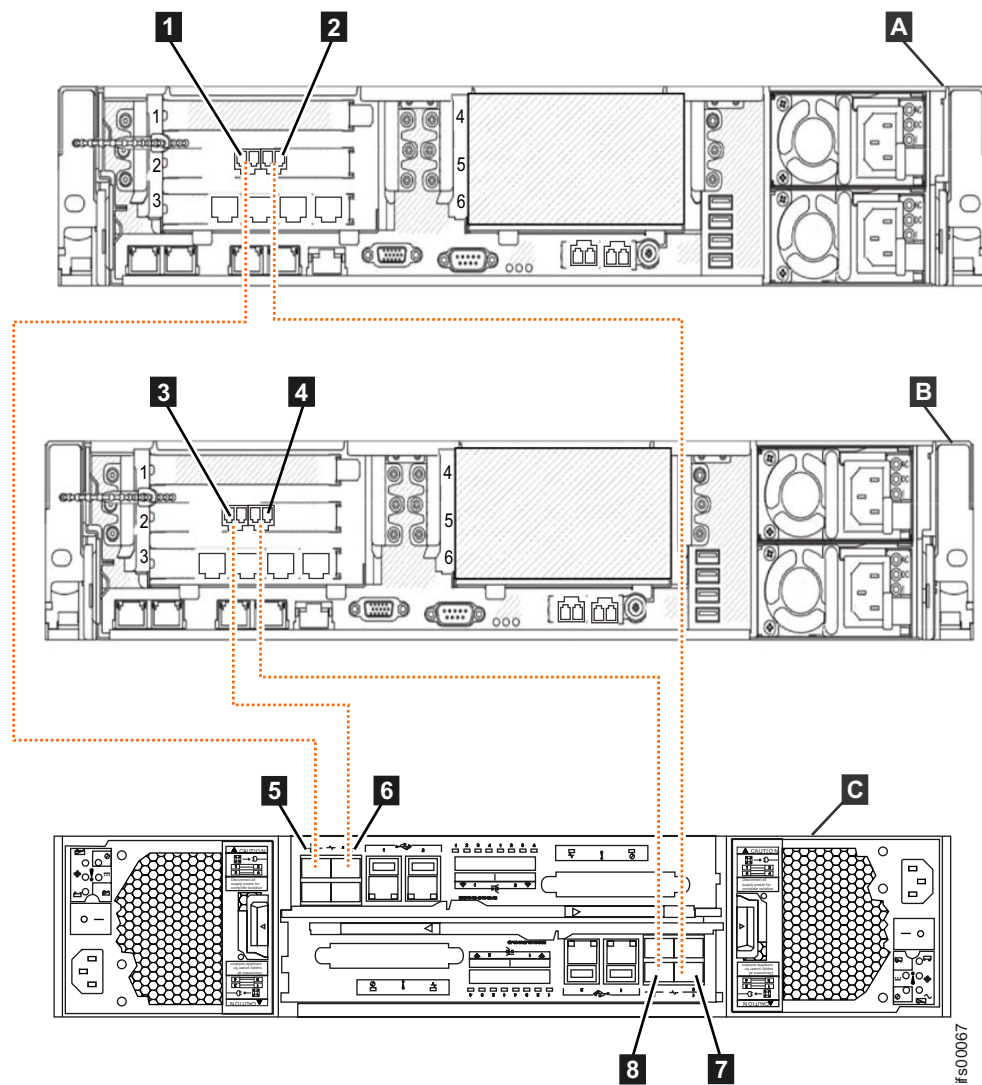
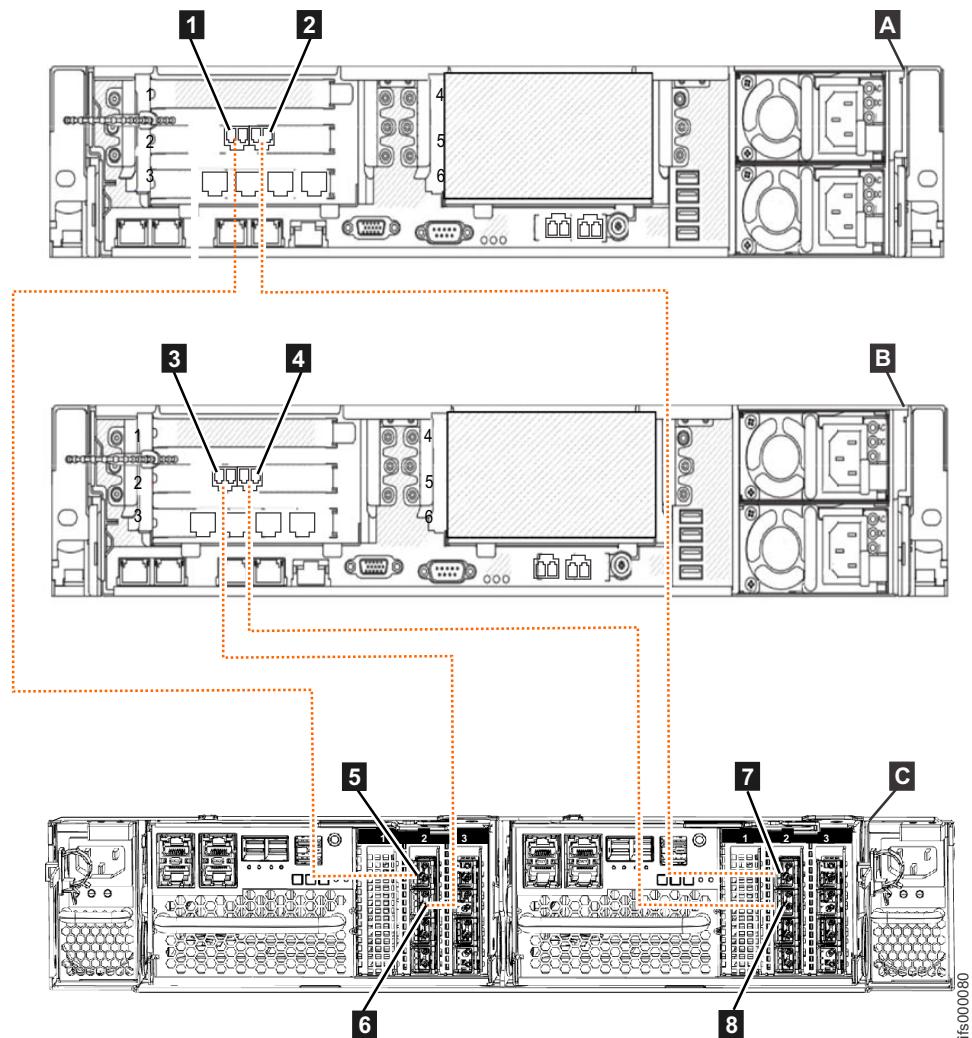

Figure 53. Connecting the file modules to the Storwize V7000 Gen1 control enclosure using Fibre Channel cables
Figure 54. Connecting the file modules to a Storwize V7000 Gen2 control enclosure that has a Fibre Channel interface card in PCI slot 2 of each node canister
3. Before you continue, make sure that you have connected the Fibre Channel cabling as shown in Figure 53 (Storwize V7000 Gen1) or Figure 54 on page 65 (Storwize V7000 Gen2) to ensure proper redundancy. Incorrect cabling might result in a loss of service during system maintenance procedures.